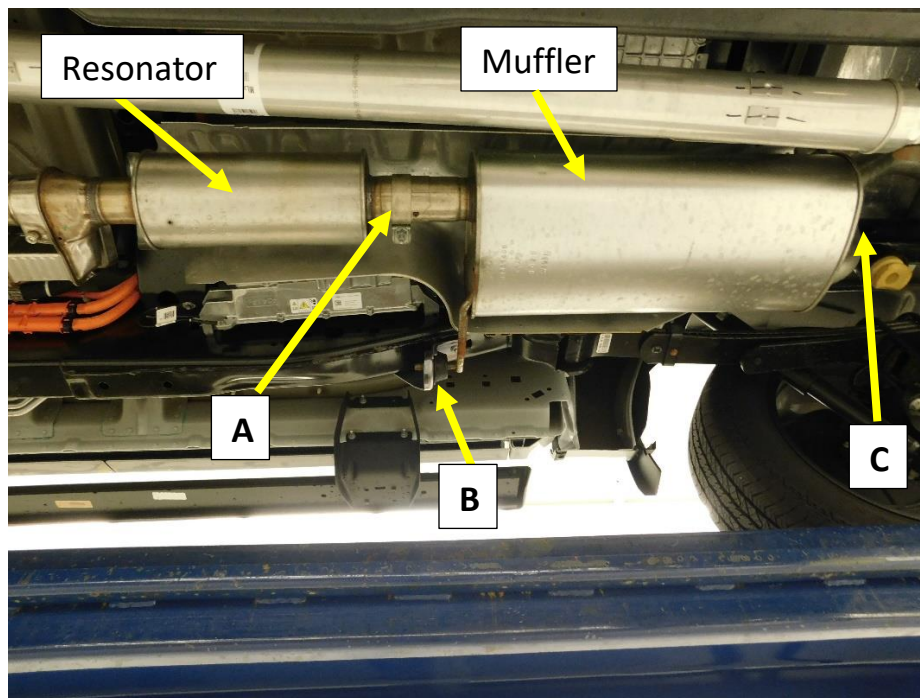

Figure 6
- Loosen the clamp at the slip joint between the muffler and the Resonator **(A)**. **Fig. 6**
- Remove the (x3) bolts at the muffler hanger on the frame rail **(B)**. **Fig. 6**
- Remove the bolt from the muffler hanger over the muffler and remove the hanger from the cross brace **(C)**. **Fig. 6**